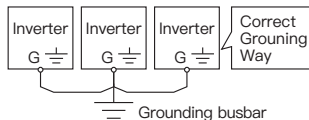

Figure 1-1 (connected at the same point)
- ▲ For the purpose of safety, the ground terminal of the inverter must be reliably grounded. In order to avoid the influence of grounding common impedance interference, multiple inverters should be grounded at one point, as shown in Figure 1-1.